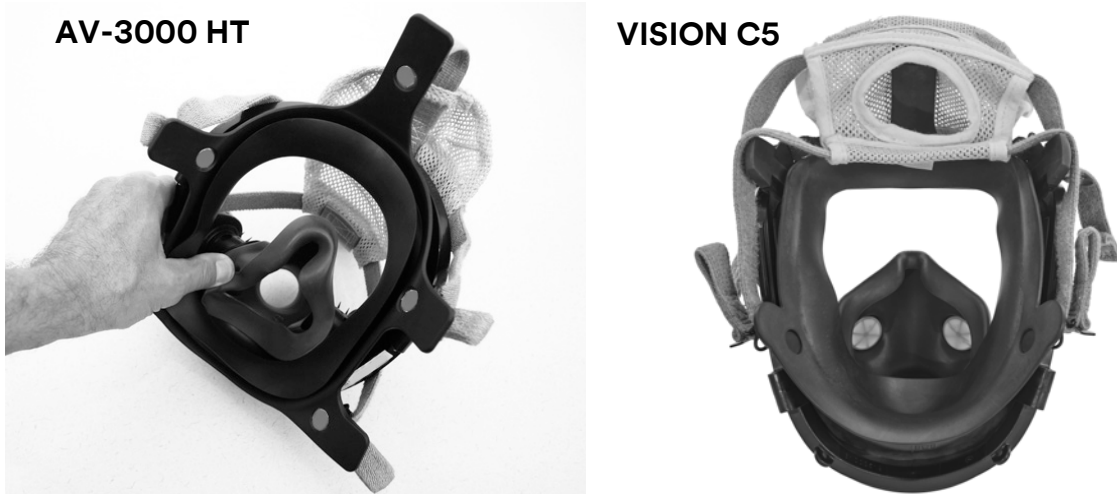

Figure 1-4 Checking the nose cup installation
- c Verify that the nose cup is properly installed. Check that the nose cup is properly seated between the flanges of the voicemitter ducts and over the chin cup. See Figure 1-4.